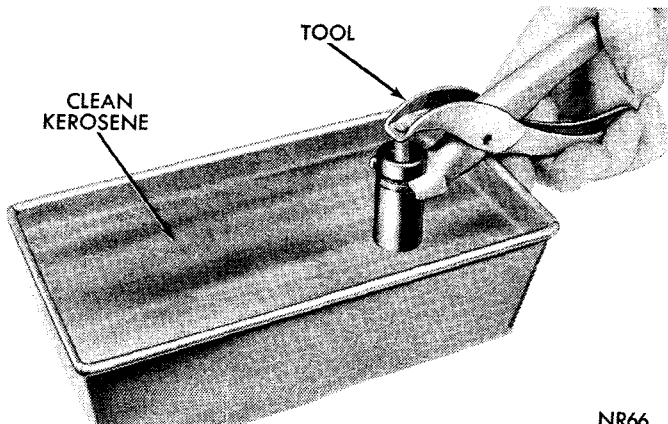

Fig. 17—Testing Tappet Using Tool C-3160
lower jaw of pliers, Tool C-3160, in the groove of tappet body (Fig. 17).
(6) Engage jaw of pliers with top of tappet plunger. Test leakdown by compressing the pliers. If plunger collapses almost instantly as pressure is applied, disassemble tappet, clean and test again (Fig. 17).
(7) If tappet still does not operate satisfactorily after cleaning, install a new tappet assembly.